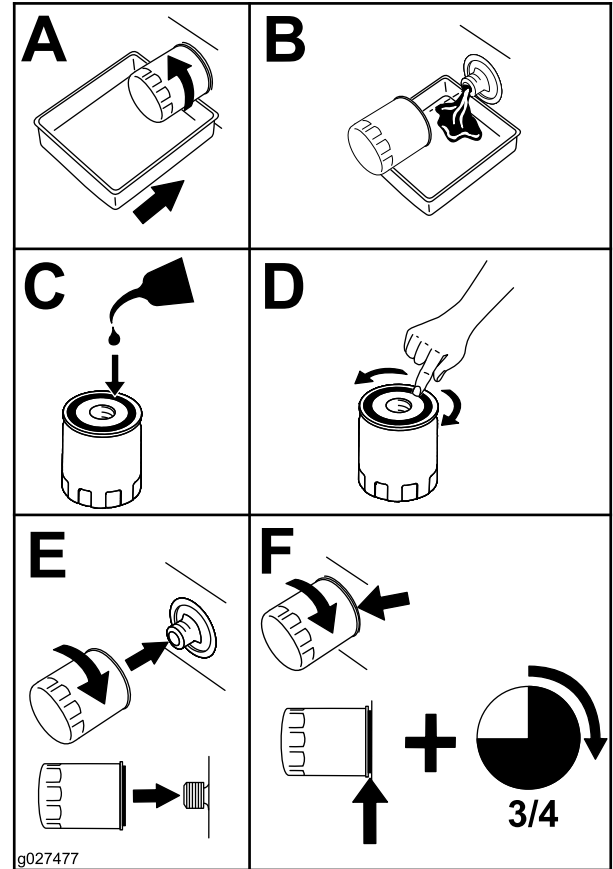

Figure 19
- Change the engine-oil filter (Figure 19).